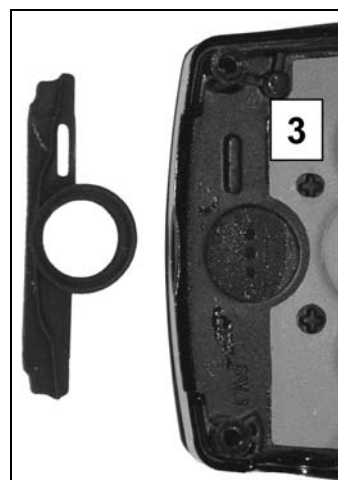

Figure 7-15.
3. Remove microphone seal from front housing by gently prying up along length of seal until adhesive releases (see Figure 7-15).
During installation, ensure slot in seal is properly aligned with matching post (see Figure 7-15). Press firmly to activate adhesive.